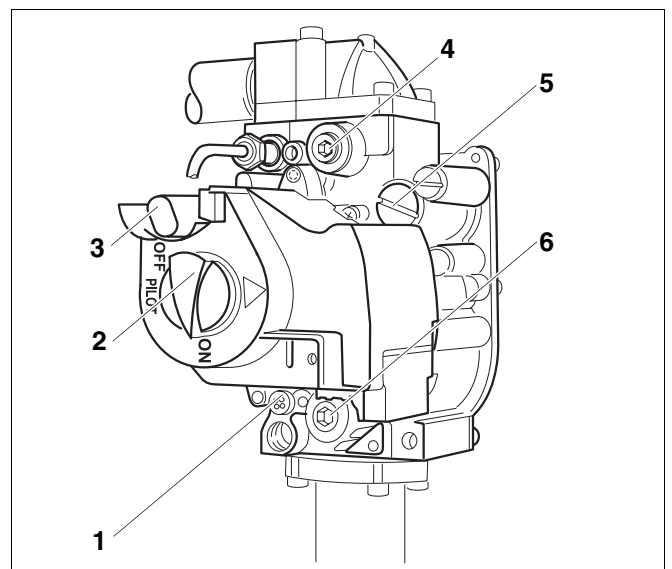

Fig. 19 GC124 SP gas valve
14. Compare the manifold pressure with the values in → Tab. 3. If it differs by more than 0.2" W.C., adjust accordingly. To set the manifold pressure, the protective screw on the gas valve must be removed (→ Fig. 19). Turn the adjustment screw clockwise to increase the pressure, and counterclockwise to reduce the pressure. This setting must be adjusted while the boiler is operating.